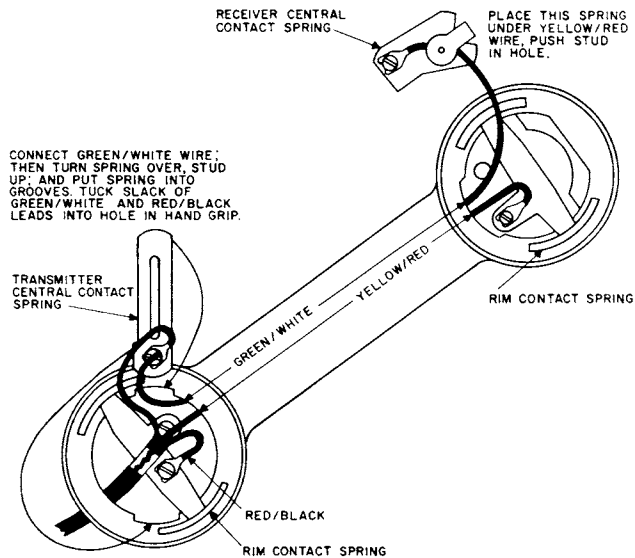

Figure 17. Type 81 handset wiring.
5.1 The manually-adjusted Type 85 telephone uses a Type 81 handset only. The piece number for the Type 81 transmitter capsule is D-38363-A. The piece number for the Type 81 receiver capsule is D-51021-A. Type 81 handset components and wiring are shown in figure 17.
Remove the old cord from the handset and connect the new cord as shown in figure 17.